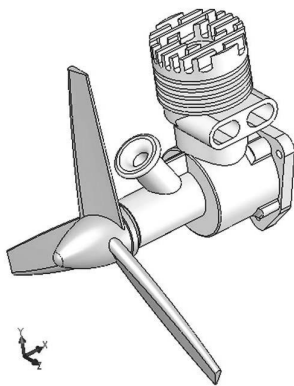

Figure 1-1 A Single Piston Engine (Unexplode View)
*SOLIDWORKS Motion* is a computer software tool that supports engineers to analyze and design mechanisms. It is a module of the *SOLIDWORKS* product family developed by *Dassault Systèmes SOLIDWORKS Corporation*. This software supports users to create virtual mechanisms that answer general questions in product design as described next. A single piston engine shown in Figures 1-1 and 1-2 is used to illustrate some typical questions of mechanism designs, such as the following: